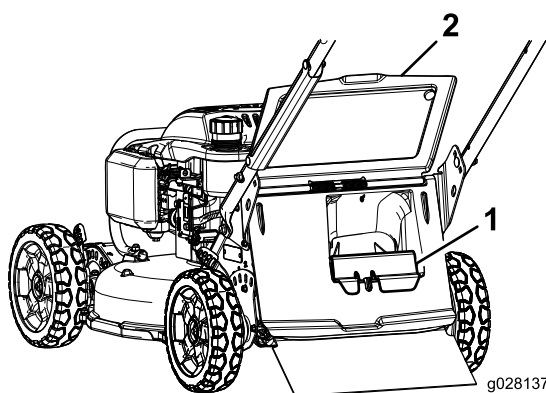

Figure 15
- If the rear-discharge plug is not installed, grip it by the handle, raise the rear door, and insert it into the rear-discharge chute until the latch locks into place (Figure 15).
3. Remove the rear-discharge plug by pushing in the latch with your thumb and pulling the plug out from the machine (Figure 15).